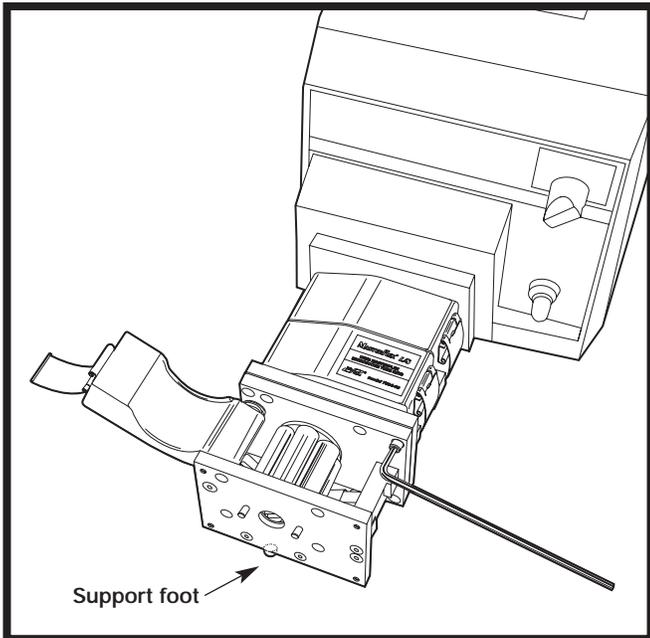

Figure 3, Stacking Pump Heads
4. Fasten the pump heads together with the four screws (provided) using the holes in the four corners of the pumps (Figure 3).